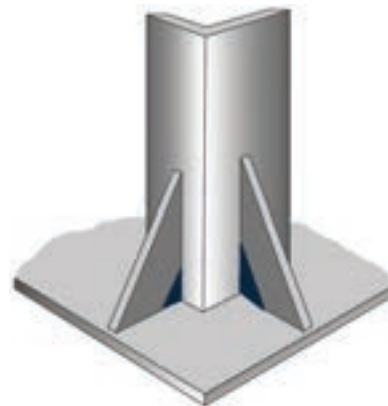

Figure 16: Cropped bracing
- To ensure unimpeded flow of solutions, all stiffeners, gussets, and bracing should be cropped a minimum of 3/4-inch (19 mm) (*Figure 16*). Provide holes at least 1/2-inch (13 mm) in diameter in end-plates on rolled steel shapes to allow molten zinc access during immersion in the galvanizing bath and drainage during withdrawal.